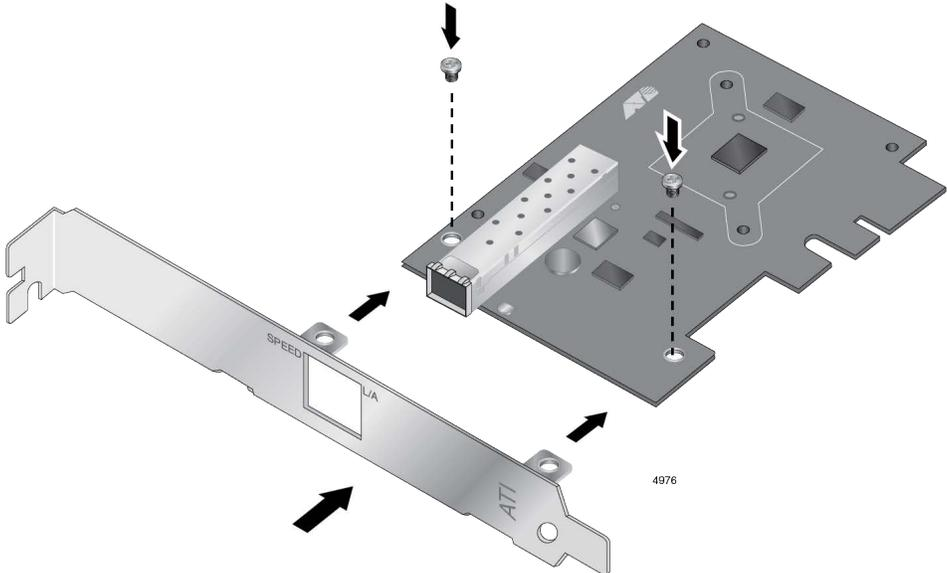

Figure 8. Installing the Standard Bracket
2. Align the tabs of the standard bracket with the holes on the network adapter and fasten the screws onto the network adapter. See Figure 8 on page 31.